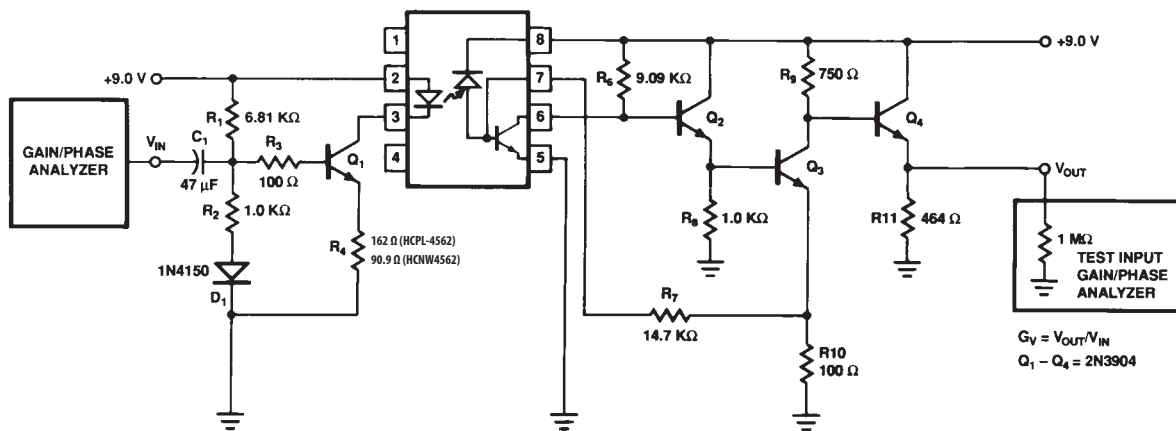
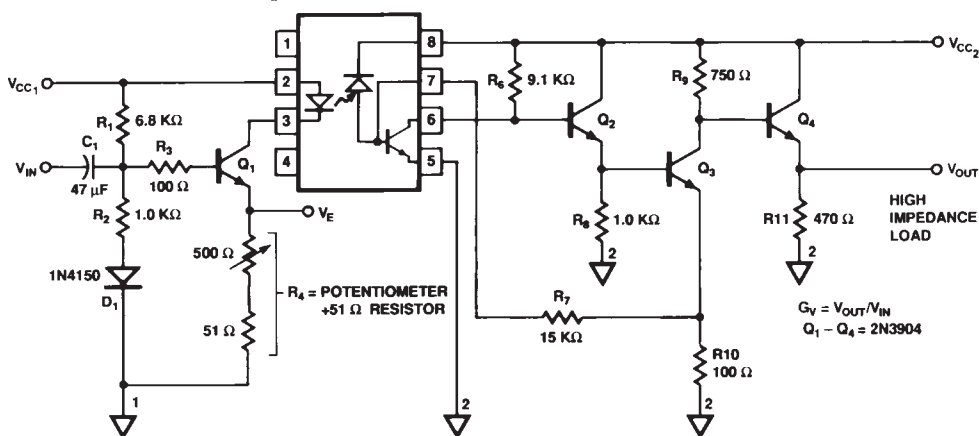

Figure 1. Gain and bandwidth test circuit
Figure 4. Recommended isolated video interface circuit
- When used in the circuit of Figure 1 or Figure 4; $G_V = V_{OUT}/V_{IN}$; $I_{FQ} = 6 \text{ mA}$ (HCPL-4562), $I_{FQ} = 10 \text{ mA}$ (HCNW4562).
In order to obtain similar circuit performance when converting from the HCPL-4562 to the HCNW4562, it is recommended to increase the Quiescent Input Current, I_{FQ} , from 6 mA to 10 mA. If the application circuit in Figure 4 is used, then potentiometer R4 should be adjusted appropriately.
The application circuit in Figure 4 incorporates several features that help maximize the bandwidth performance of the HCPL-4562/HCNW4562. Most important of these features is peaked response of the detector circuit that helps extend the frequency range over which the voltage gain is relatively constant. The number of gain stages, the overall circuit topology, and the choice of DC bias points are all consequences of the desire to maximize bandwidth performance.